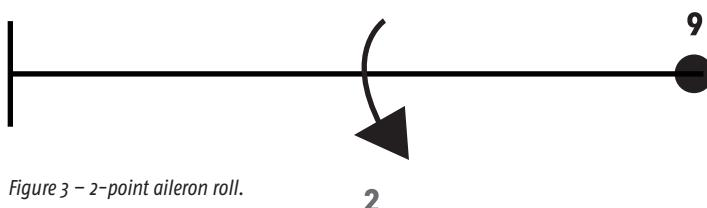

Figure 3 - 2-point aileron roll.
**The 2-POINT AILERON ROLL:** (Figure 3) I am doing the aileron roll, maneuver No. 9, out of order because its elements and techniques apply to the part rolls in the Immelmann (No. 3), goldfish (No. 5), and the wedge (No. 6). See Figure 4.